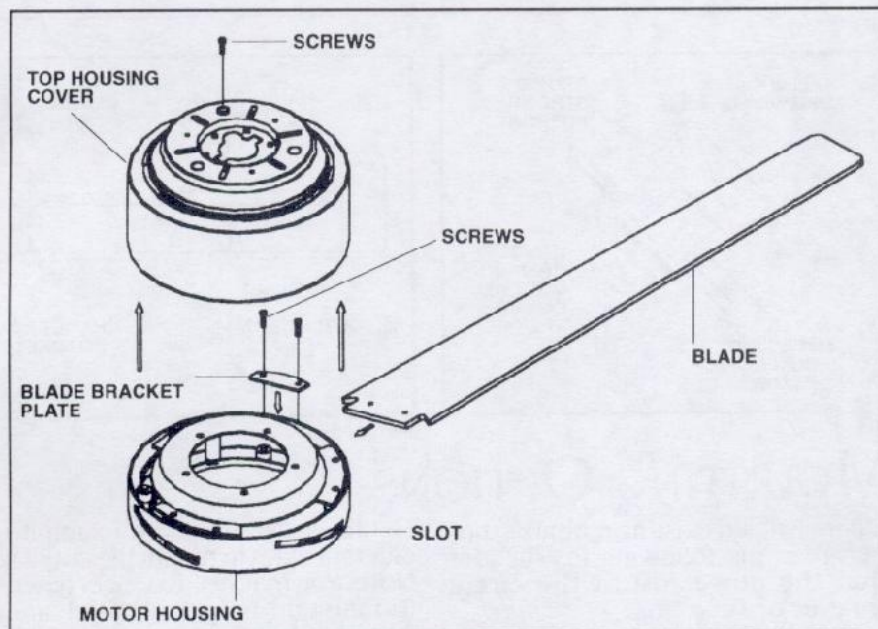

FIG. 5
Step 2. Remove the six screws from the Top Housing Cover and lift off along with the coupling washer. (Fig. 5)
Step 3. Insert the Blade through the slot in the Motor Housing. Align holes in Blade and motor, place the Blade Bracket Plate over blade making sure the holes are also aligned and secure with two screws. Repeat process with the other Blades. (Fig. 5)
Step 4. Re-install the Top Housing Cover and motor coupling washer, secure with only the three screws previously removed from the motor coupling. Save the remaining three screws for later. (Fig. 5)